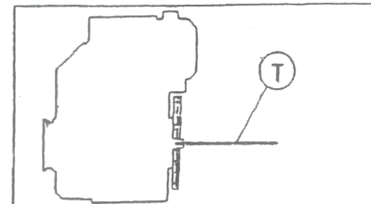

Fig.1
1. Clamp the flange on the drive motor (fig.1)
2. Apply the rod-T for the axial clamping of the rotor and screw it tight on the engine shaft (fig. 1)